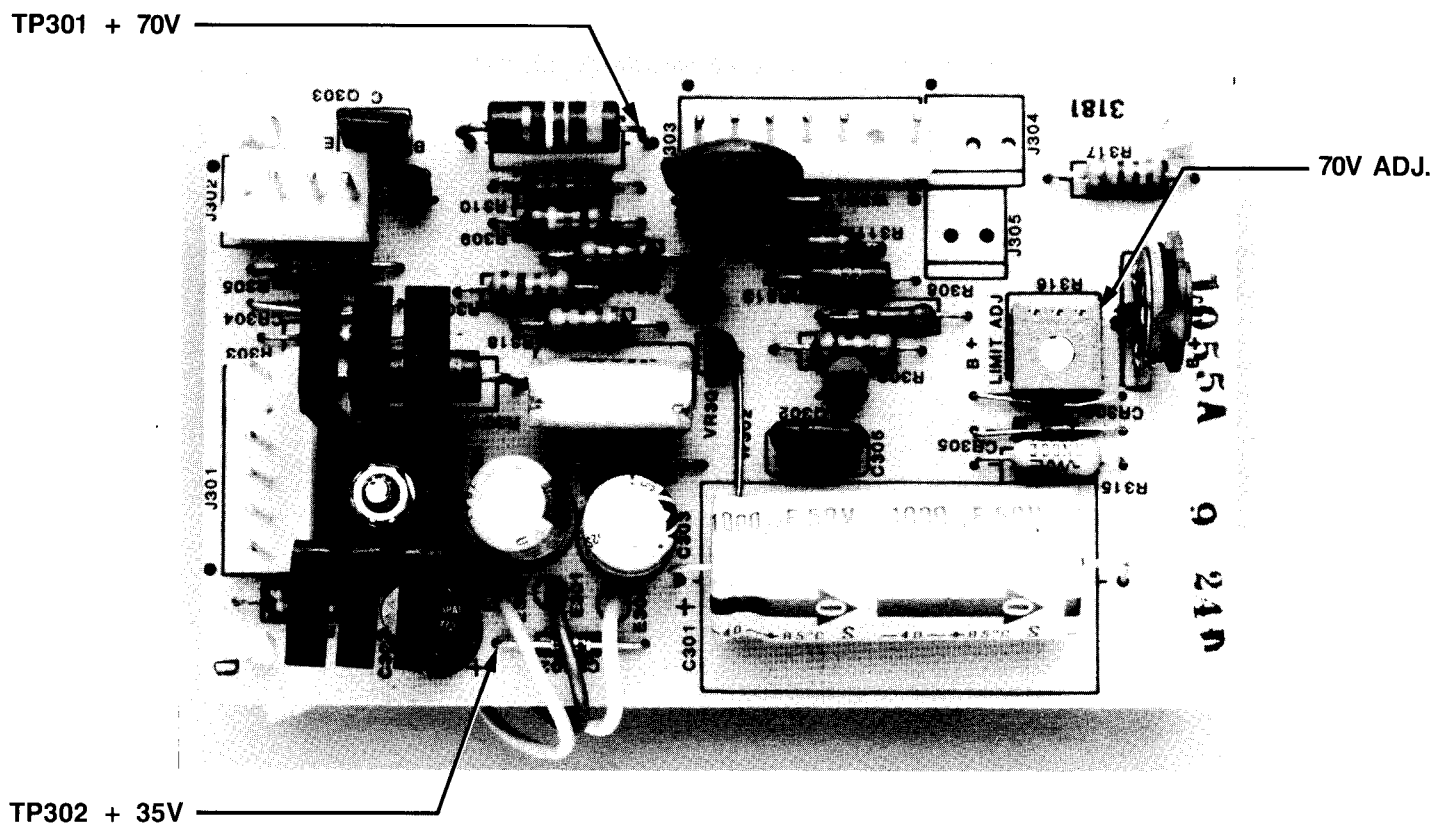

Figure 16. Monitor Voltage Test Points
4. Remove the four screws that hold the back panel in place. Locate the low voltage PCA at the bottom of the unit. Check for proper voltage at Test Points 301 and 302. (See Figure 16.)